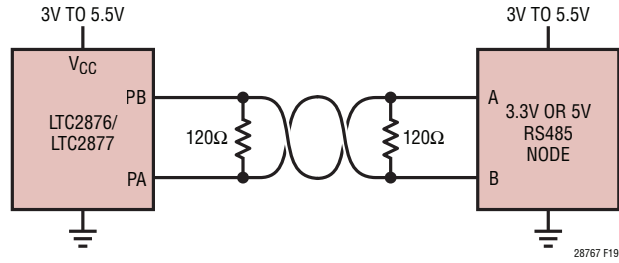

Figure 20. LTC2876/LTC2877 Operation as Low as 3V is Compatible with Other RS485 Devices, but with Reduced Output Signal Swing
3.3V-powered LTC2876/LTC2877 devices can be mixed with other RS485 transceivers running from 5V on the same network as shown in Figure 20. There is no concern for the higher voltage of a 5V node overdriving the 3.3V node